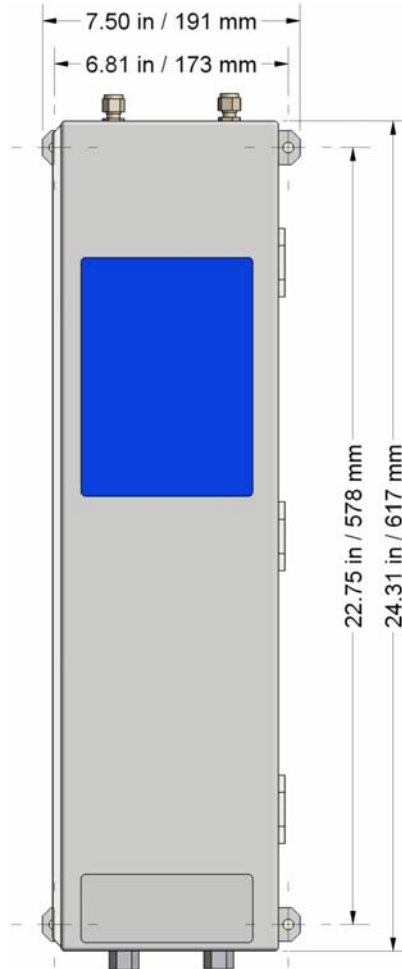

Figure 3 - Mounting Hole Dimension
1. Attach system to secure wall using (4) ¼" dia. screws.
2. Refer to figure 3 for mounting dimensions.